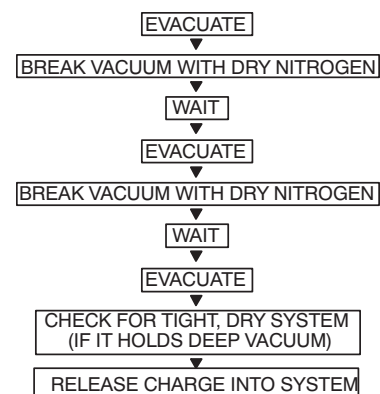

Fig. 24 — Triple Evacuation Method
The triple evacuation method should be used when vacuum pump is not capable of pumping down to 500 microns and system does not contain any liquid water. Refer to Fig. 24 and proceed as follows:
5. Repeat this procedure as indicated in Fig. 24. The system should now be free of any contaminants and water vapor.